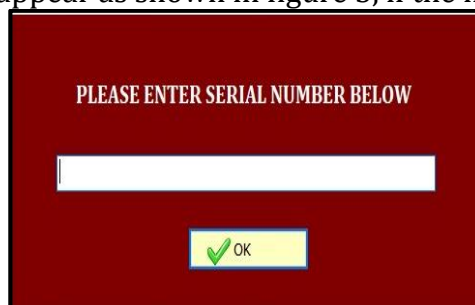

Figure 3
- The following image will appear as shown in figure 3, if the manual selection is selected.
As shown in figure 3, click on the tabs for fixtures 1 to 4. The parameter list, measured value, and result can be seen here.